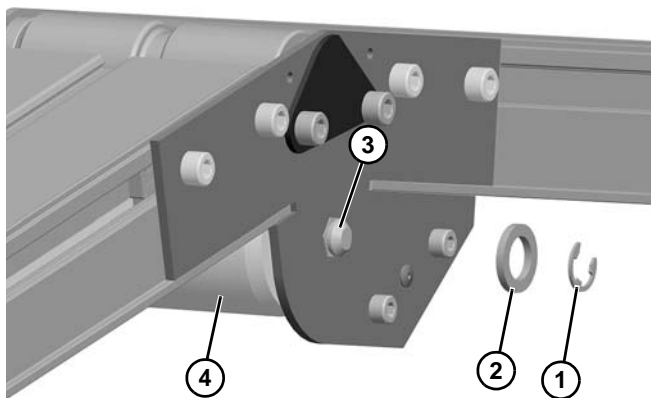

Figure 126
- a. For 2" (44 mm) through 4" (95 mm) wide conveyors, remove E-ring clip (Figure 126, item 1) and washer (Figure 126, item 2) from one side. Remove pulley shaft (Figure 126, item 3) and pulley (Figure 126, item 4).